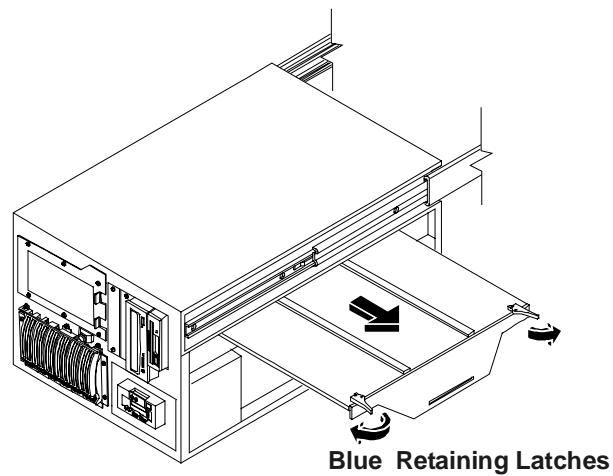

Figure 5-3. Removing the System Board from the Rack-Mount NetServer
6. Pull the board out until it clears the chassis guides (see Figures 5-3 and 5-4).